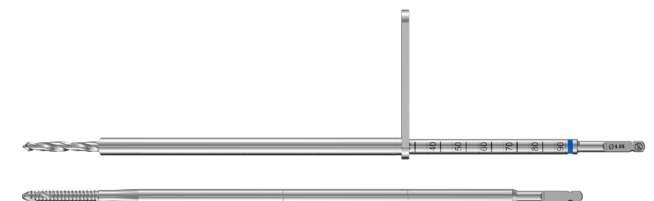

Figure 84
- 225mm and 250mm half pins are designed to be used with short or long tissue sleeves. These length pins have two etchings: the first located closest to the sharp end aligns with the short sleeve. **(Figure 84)**; the second aligns with the long sleeve **(Figure 84)** These etchings align with the handle of the relative tissue sleeve when the threaded region of the pin has fully cleared the sleeve's opening.